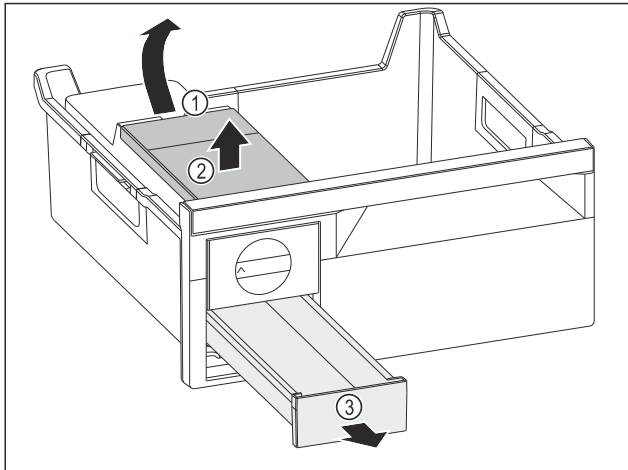

Fig. 143
- ▶ Removing the water tank: Lift the water tank by the recess Fig. 143 (1).
- ▶ Remove the water tank Fig. 143 (2) upwards.
- ▶ Remove the ice cube drawer Fig. 143 (3) to the front.